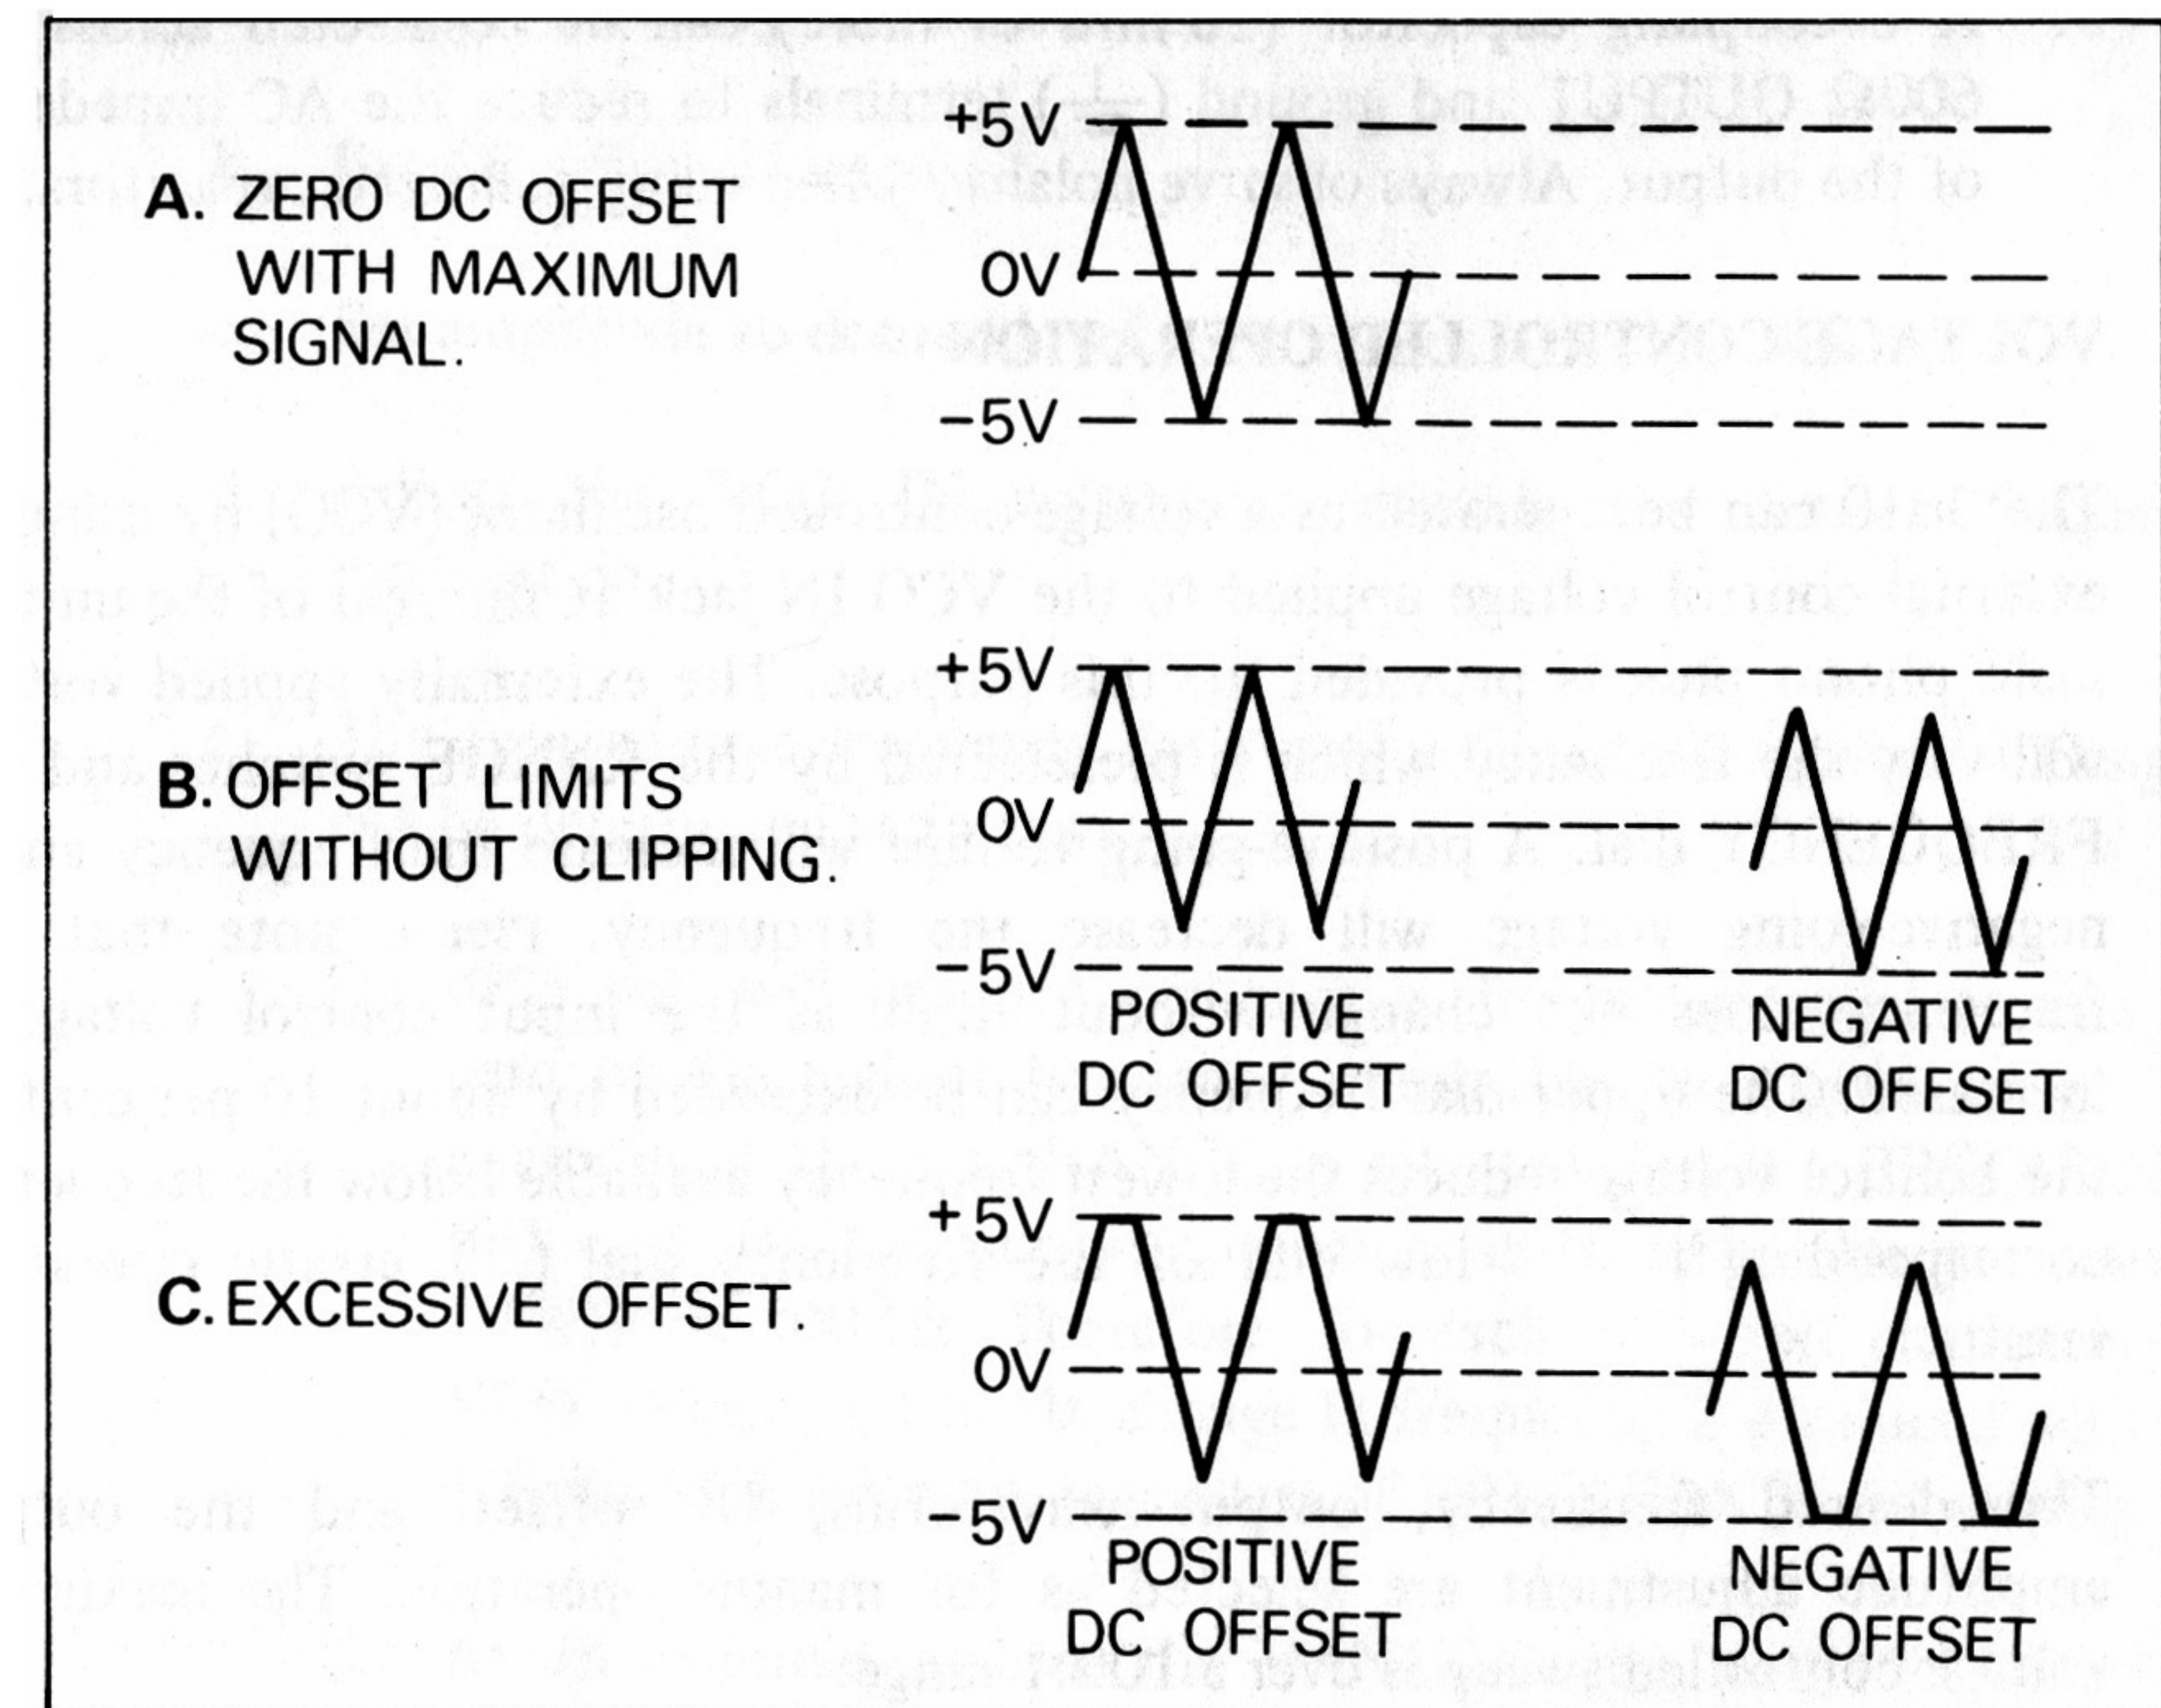

Fig. 4. Use of DC OFFSET control.
6. Remember that the output signal swing of the generator is limited to ±10 volts (open circuit) or ±5 volts into 600 ohms. This applies to the combined signal and DC offset. Clipping occurs slightly above these levels. Fig. 4 illustrates the various operating conditions encountered, when using the DC offset. If the desired output signal is large or if a large DC offset is used, an oscilloscope should be used to make sure that the desired combination is obtained without undesirable clipping.